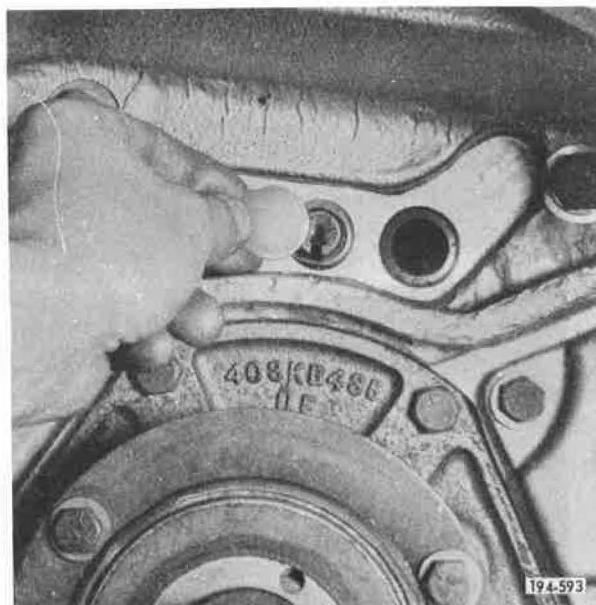

Figure 5-545. Positioning Expansion Plug
18. Place expansion plug in position at front of second/third speed shift rail. See Figure 5-545.